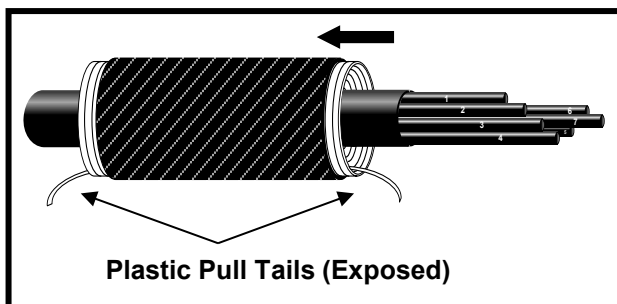

Figure 6
8.1 Slide Shrink Sleeve over one Tube Cable end and past exposed Tubes. Be sure that one pull tail of the Sleeve's plastic core inner wrapping is exposed at each end of the Sleeve. See Fig. 6.